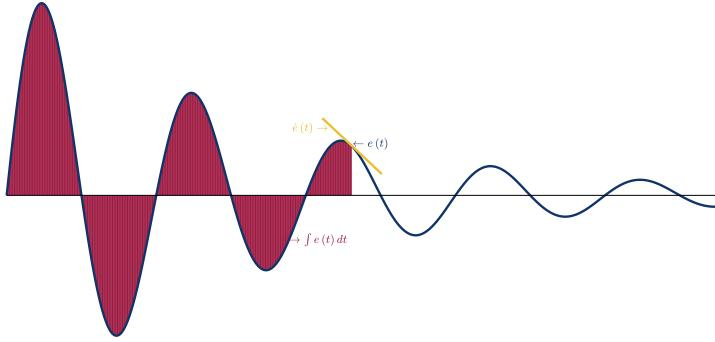

Figure 5.2: Arbitrary error signal with a PID controller acting on it
- Figure 5.2 illustrates the concepts of a PID controller. You have some error signal, where the proportional term acts on the current state of the system, the integral term sums up all previous error, and the derivative term attempts to predict and control future error.